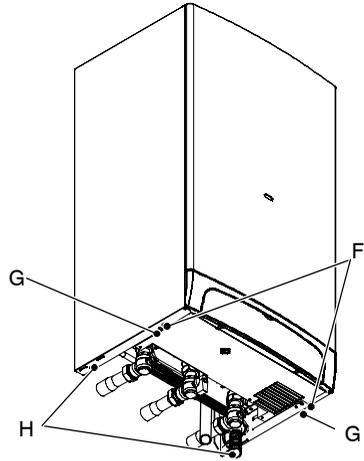

Fig. 6.12
- 2 Remove the screws F and G (Fig. 6.12).